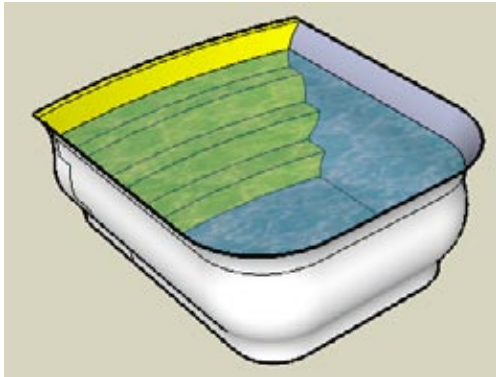

Figure 4-71
9. Intersect and trim. You can paint this face with a translucent water material from the Water category (Figure 4-71).